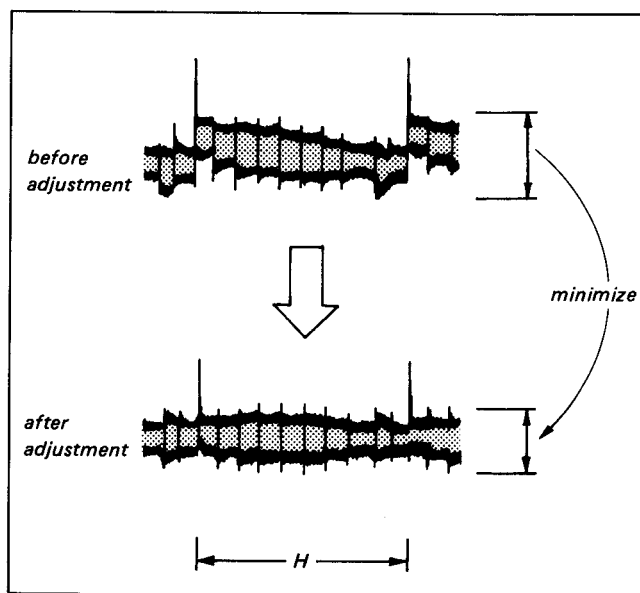

Fig. 5-14. Y-comb adjustment
- i) Adjust RV12 for minimum output. (See Fig. 5-14.)